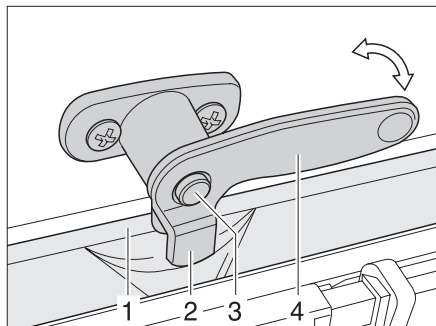

Fig. 48 Catch lever with safety knob in "Continuous ventilation" position
- ▶ If it exists, press the safety knob (Fig. 48,3) down and hold it.